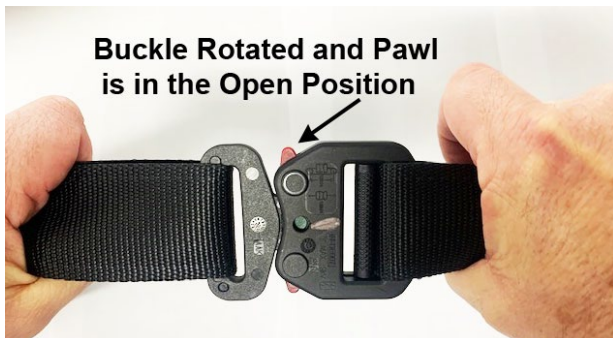

Fig. 5
- Repeat the above procedure for the opposite red release pawl. Figures 5 and 6 show the strap rotated 180° with the pawls tested in the same manner as above.